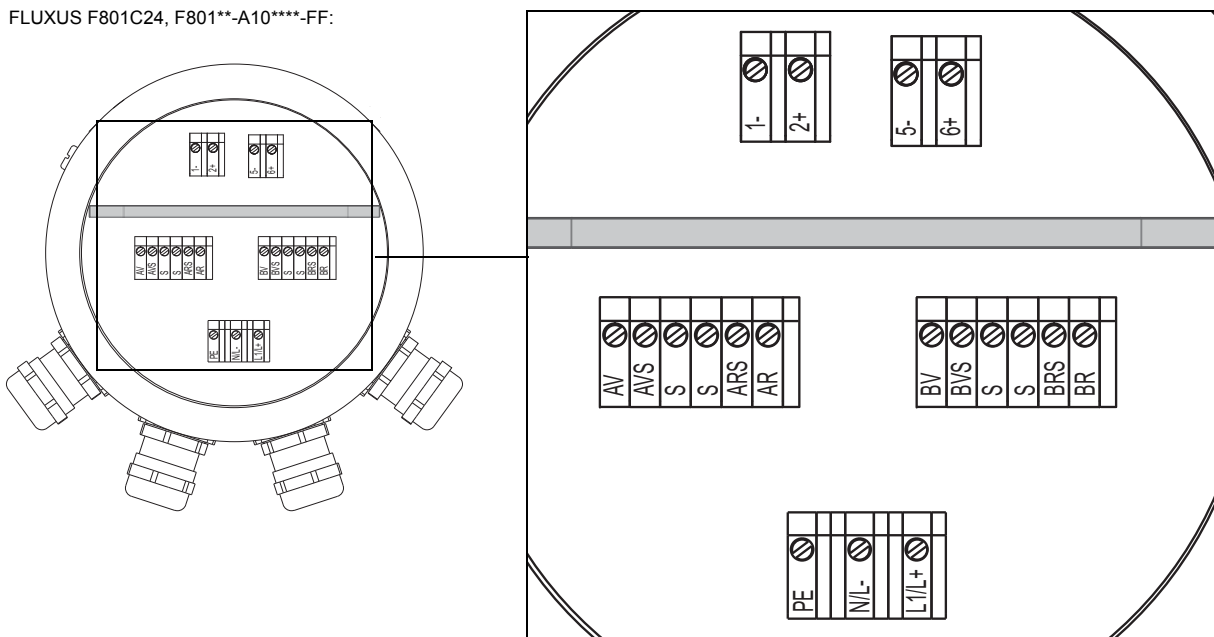
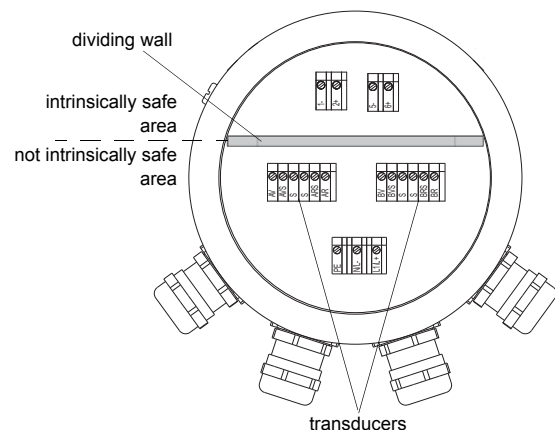

Fig. 7.3: Terminal designation of the transmitter
Fig. 7.5: Terminals for the connection of the transducers (extension cable)
- Connect the core and the shield correctly to the terminals of the transmitter (see Fig. 7.3, Fig. 7.5 and Tab. 7.1).